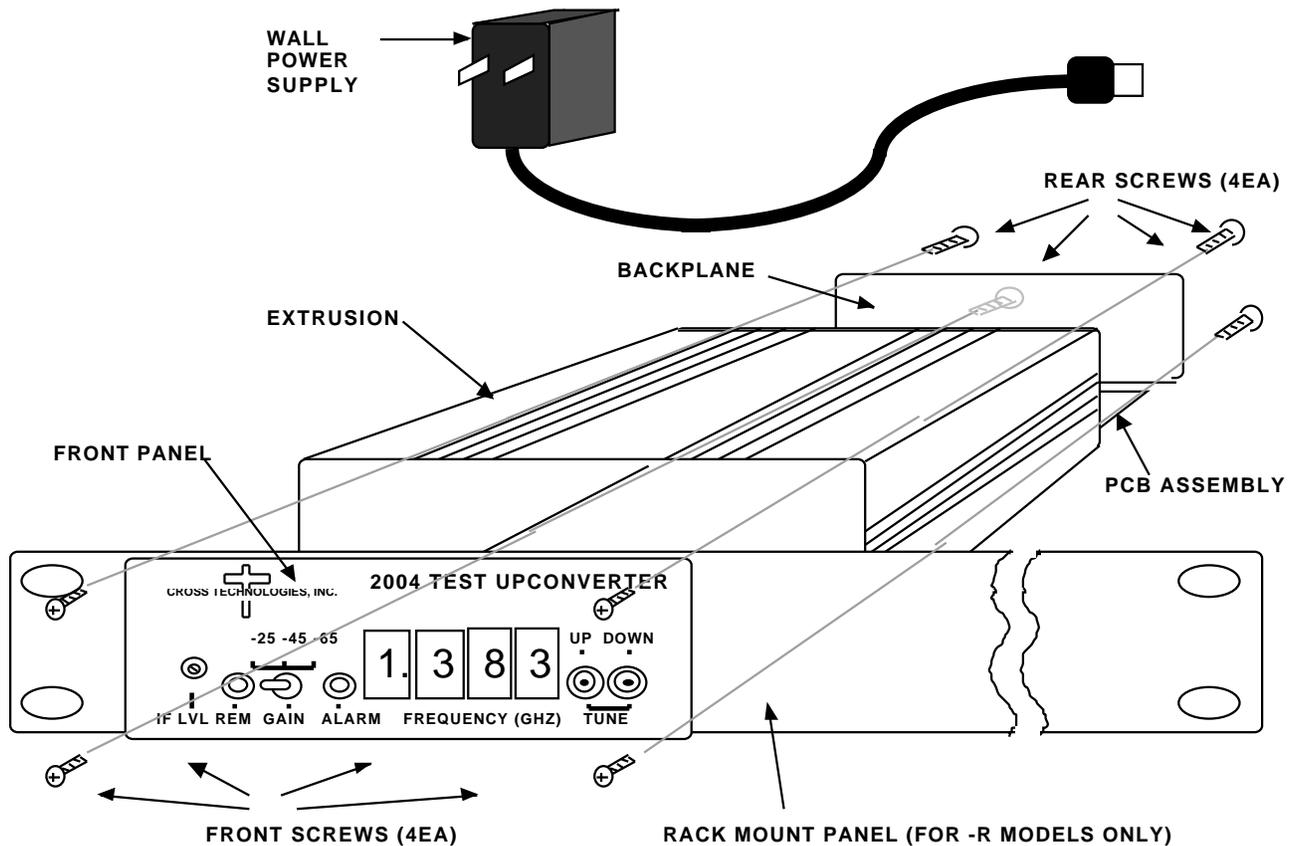
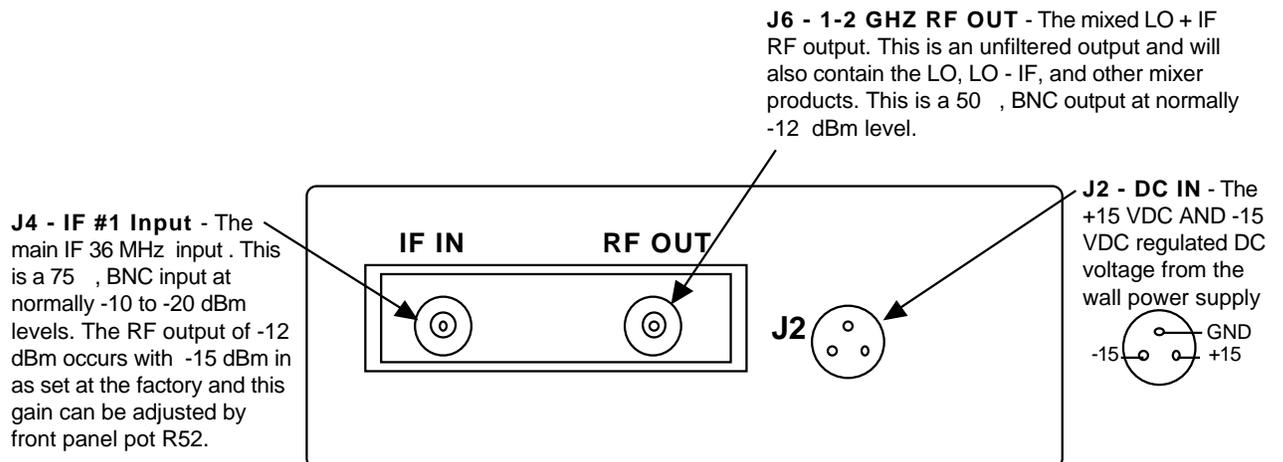

FIGURE 2.1 SERIES 2000 ASSEMBLY DRAWING
FIGURE 2.3 2002-32, -33 Inputs and Outputs
2.1 Mechanical - The 2002-32 and 2002-33 are packaged in an aluminum extrusion. The 2002-32R and 2002-33R are mounted on a 1 3/4" X 19" panel that can be mounted to a rack using the 4 holes at the ends. The 2002-32 derives $\pm 15V$ from the wall power supply and the 2003-33 derives $\pm 15V$ from the model 2000-01 power supply. See Figure 2.1.
2.3 Input / Output Signals - Figure 2.3 shows the input and output signals to the 2002-32,-33.
- 1.) Remove four (4) **rear panel screws** (see Figure 2.1).
- 2.) Connect the wall power supply to the 2002-32 and the wall power supply to 115 VAC, 60 Hz (Figure 2.1). For the 2033-33 be sure the ± 15 VDC inputs are connected to the 2000-01 Power Supply and the 2000-01 to 90-260 VAC, 47-60 Hz.
- 3.) Connect a -15 dBm signal to IF In (Figure 2.1, Figure 2.3)
The remote control program sends commands to the 2002-32,-33 through pin 3 of the DB9 connector, J3 (Figure 2.3). Pin 3 is an RS-232 serial port set to accept 8N1 formatted data. Each command sent to the 2002-32,-33 consists of an instruction byte followed by one or two bytes of data. The 2002-32,-33 acknowledges receiving and successfully executing each remote control command by sending an **acknowledge byte** (9600 baud, 8N1 format) through pin 2 of the DB9 connector, J3.